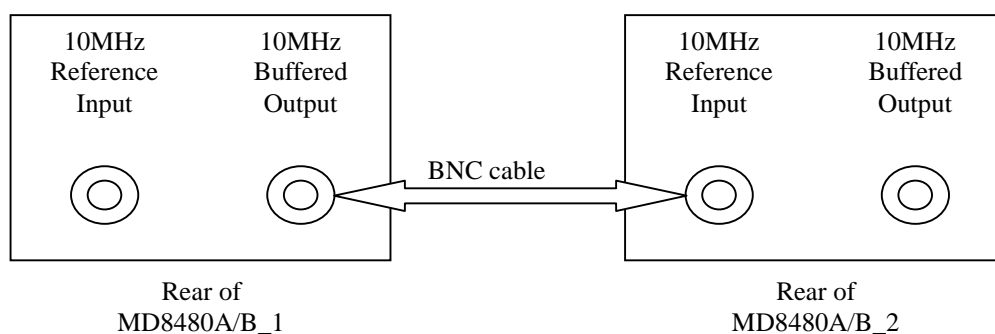

Figure C-10 Rear connection
- (4) Connect MD8480A/B\_1(10MHz Buffered Output connector) and MD8480A/B\_2(10MHz Reference Input connector) with BNC cable. (Refer to Figure C-10.)
- (5) Set to “Output” in Timing Sync in SETUP screen of MD8480A/B\_1 GUI.
- (6) Set to “Input” in Timing Sync in SETUP screen of MD8480A/B\_2 GUI.